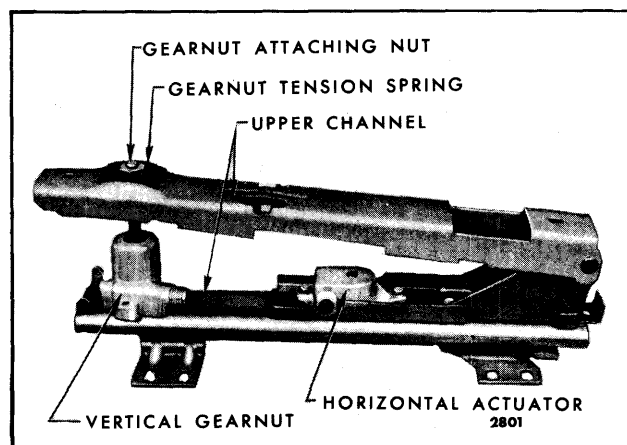

Fig. 15-11—Four-Way Seat Adjuster - Buick "B, C & E" Styles
2. Remove vertical gearnut attaching nut and gearnut tension spring (Fig. 15-11).
3. Lay adjuster on its side and remove screws securing vertical gearnut to adjuster lower track; then, remove gearnut from adjuster (Fig. 15-11).
4. To install, reverse removal procedure. Make sure horizontal actuator is properly adjusted (Fig. 15-11 and 15-12), so that drive gear is fully engaged with teeth on lower channel.